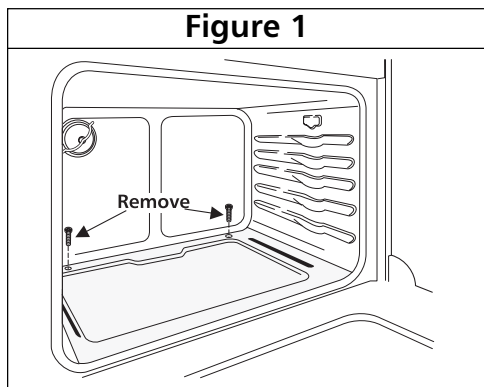

Figure 1
2. Remove the two hold-down screws (Figure 1) at the rear of the oven bottom panel. If the screws are too tight to remove by hand, use a screwdriver.